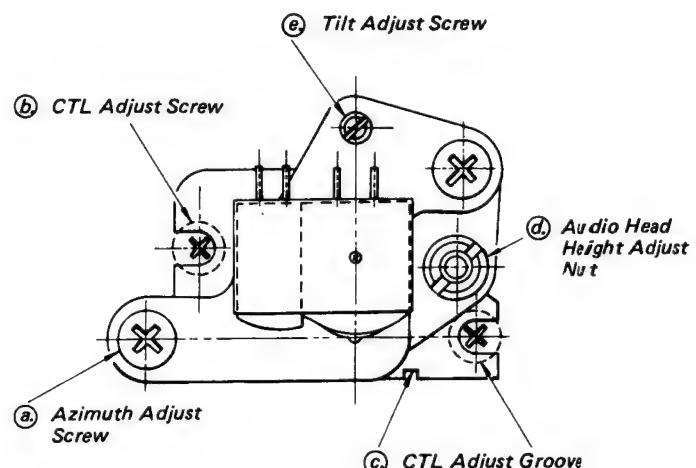

Fig. 5-124 Adjustment Screws of Audio Control Head Assembly
- c. Adjust the tilt adjustment screw ⑤ as shown in Fig. 5-124 to obtain the envelope as shown in Fig. 5-125.
- d. After adjusted tilt adjustment screw ⑤, needed the exit guide adjustment as shown in Section 34-2 step 5-b.
1. When turning the tilt adjustment screw ⑤ clockwise, the tape transportation should be down.
3. Adjust to obtain the maximum audio level by rotation the audio azimuth adjustment screw (see Figs. 5-124, 5-127).